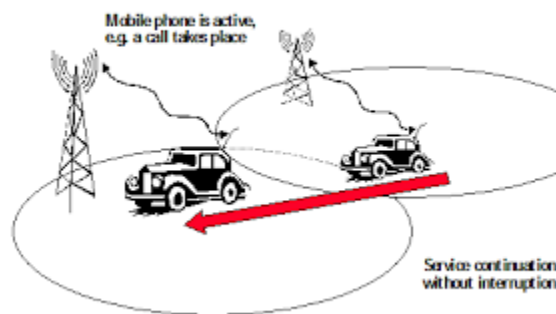

Figure 5.4. Handover
But what happens, when a subscriber moves during a call from one cell to another cell? It would be very annoying, if the call is dropped. If the subscriber is leaving a cell, and in parallel is entering a new cell, then the system makes new radio resources available in the neighbouring cell, and then the call is handed over from one cell to the next one. By doing so, service continuation is guaranteed, even when the subscriber is moving. The process is called handover (HO). It is shown in Figure 5.4.